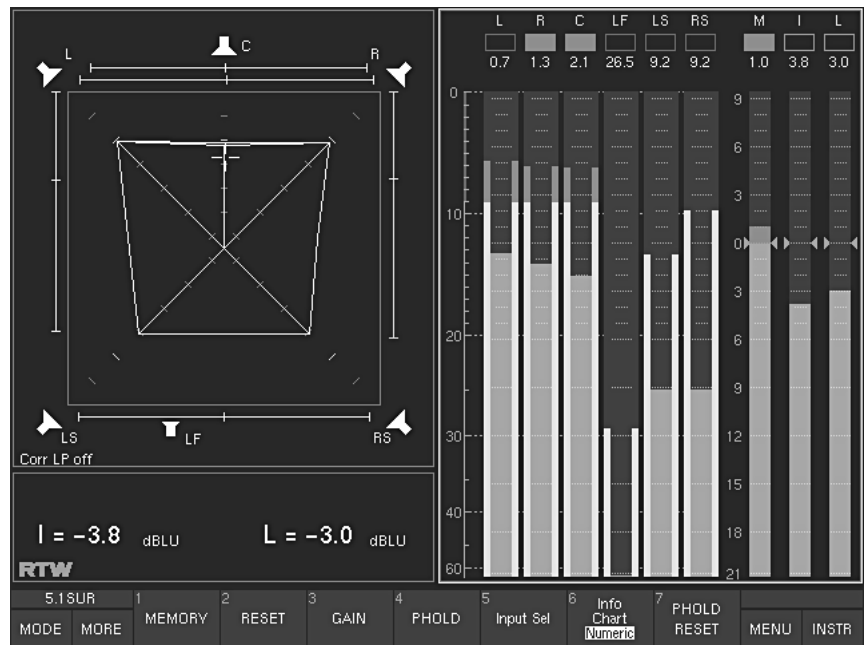

Fig. 5-8: The functions of the ITU BS.1771 Loudness Meter displayed in the Toolbar
(Button/Key 1, see Fig. 5-8)
(Button/key 2, see Fig. 5-8)
(Button/key 3, see Fig. 5-8)
(Button/key 4, see Fig. 5-8)
(Button/key 6, see Fig. 5-8)
(Button/key 6, see Figs. 5-8 and 2-18)
(Button/key 7, see Fig. 5-8)